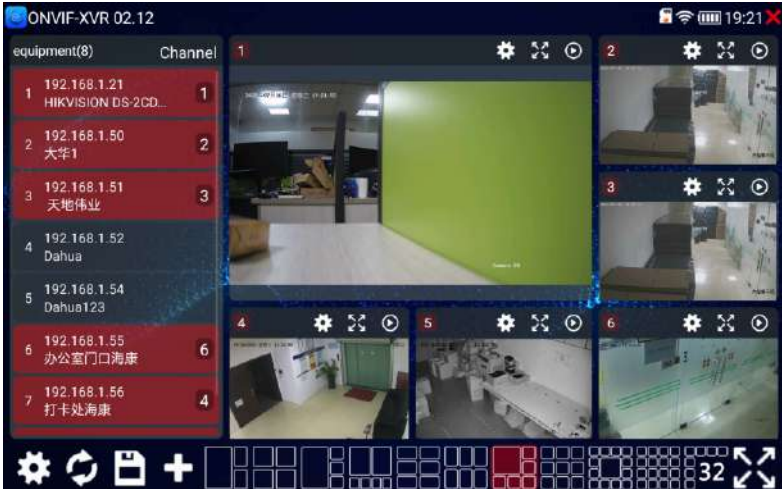

Figure 19
1) CCTV testers in the market support only single camera image viewing by now, YIAN Electronics developed multiple cameras batch preview function which support max 32-channel HIKVISION, DAHUA, etc. IP cameras, as shown in Figure 19